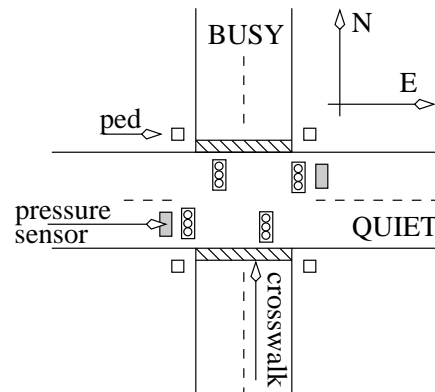

Figure 7.9: The layout of a four way intersection.
16. **(36 pts.)** You are to construct a digital circuit to control the movement of traffic at the four way intersection shown in Figure 7.9.